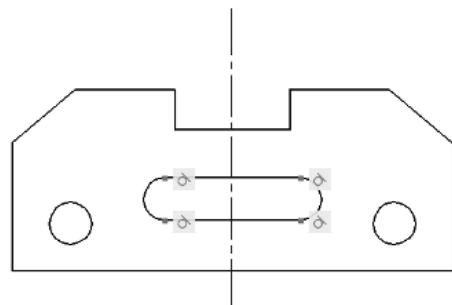

Figure 11-19 Sketch after applying the tangent constraint at all places of the slot
9. Similarly, apply the tangent constraint at all other places in the slot, as shown in Figure 11-19.